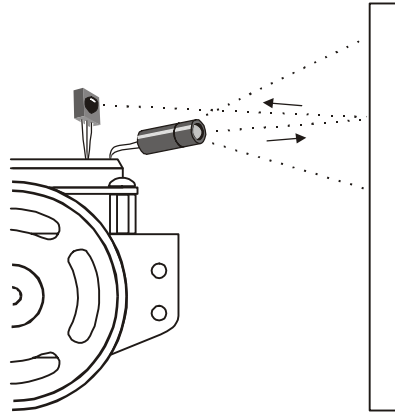

Figure 7-1
The infrared object detection system we'll build on the Boe-Bot is like a car's headlights in several respects. When the light from a car's headlights reflects off obstacles, your eyes detect the obstacles and your brain processes them and makes your body guide the car accordingly. The Boe-Bot uses infrared LEDs for headlights as shown in Figure 7-1. They emit infrared, and in some cases, the infrared reflects off objects and bounces back in the direction of the Boe-Bot. The eyes of the Boe-Bot are the infrared detectors. The infrared detectors send signals to the BASIC Stamp indicating whether or not they detect infrared reflected off an object. The brain of the Boe-Bot, the BASIC Stamp, makes decisions and operates the servo motors based on this sensor input.
- ✓ Place an object, such as your hand or a sheet of paper, vertically about an inch from the left IR pair, in the manner shown in Figure 7-1 on page 218.
- ✓ If the Debug Terminal displays the expected values for object not detected (1) and object detected (0), move on to the Your Turn section following the example program.